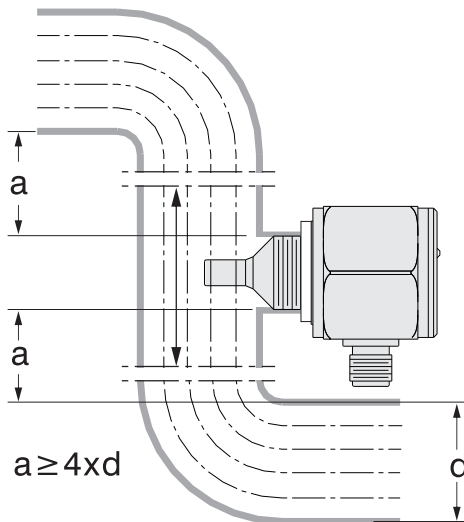

Fig. 1
2. The distance "a" should be 4 times larger than the switches' screw diameter. (Fig. 1)